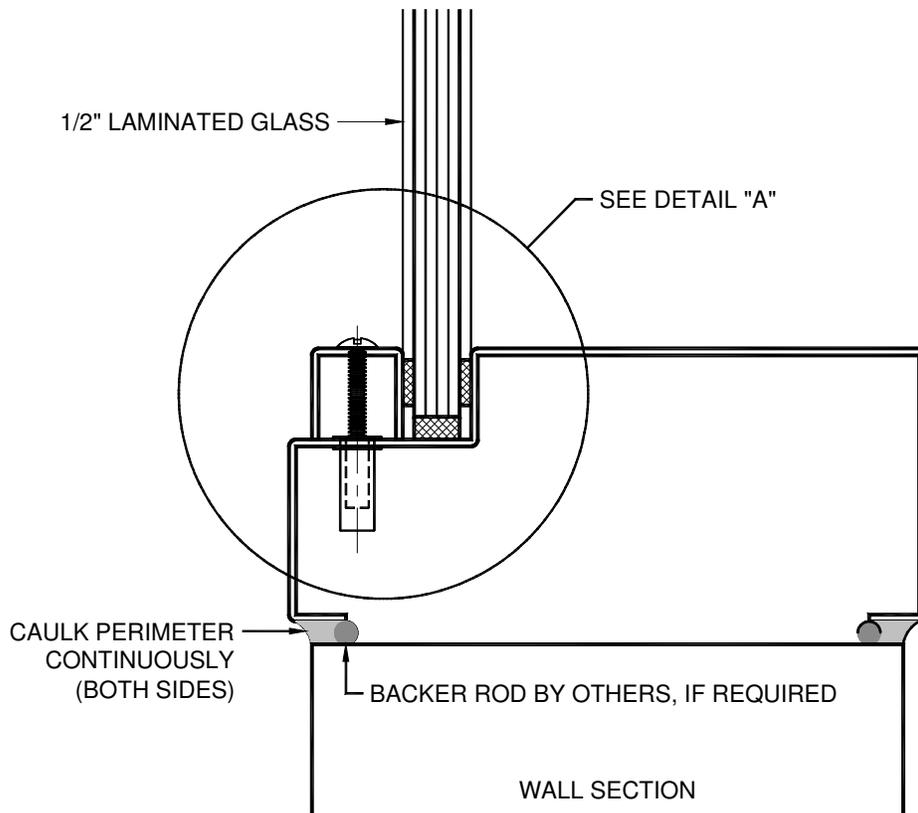

FIGURE 2
- G. Caulk frame continuously around perimeter of frame on both sides as shown in Figure 2.
- F. Caulk frame continuously around perimeter of frame on both sides as shown in Figure 2.
- D. Caulk frame continuously around perimeter of frame on both sides as shown in Figure 2.
- C. Caulk frame continuously around perimeter of frame on both sides as shown in figure 2.
- A. Locate the 3/16" x 1/2" adhesive backed sponge neoprene on the sill portion of the frame rabbet as shown in **Figure 2**, holding it 1/8" from the stop of the frame.
- B. Place 3/16" x 1/2" adhesive backed neoprene continuously around perimeter of frame stop, as shown in **Figure 2**, **Detail "A"**.
- C. Place 3/16" x 1/2" adhesive backed sponge neoprene on the entire length of each loose stop as shown in **Figure 2**, **Detail "A"**.